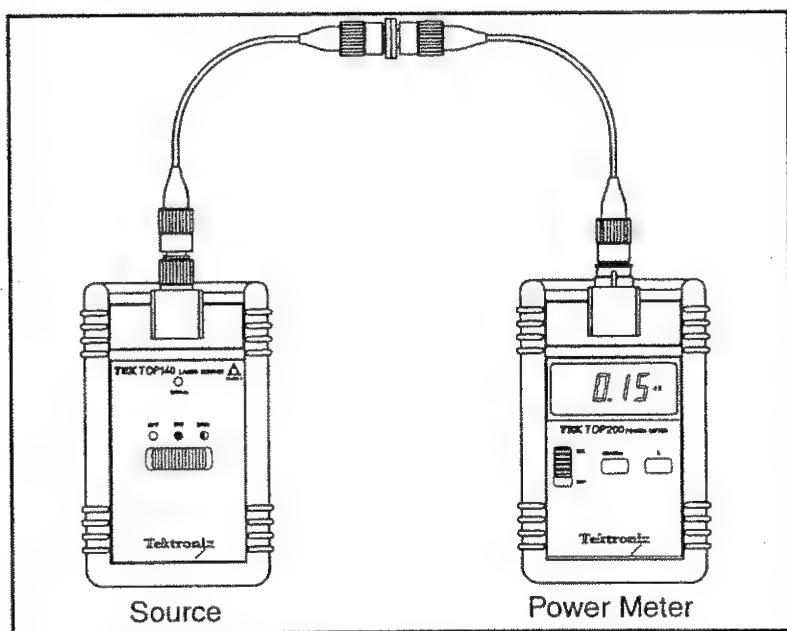

Fig 4.3 Measuring the Insertion Loss of a Connector/Cable
D) Disconnect the cable end from the power meter and insert the cable to be tested using a mating adapter. The power meter now reads the connector/cable loss in dB. The example of Figure 4.3 displays a connector loss of 0.15dB.